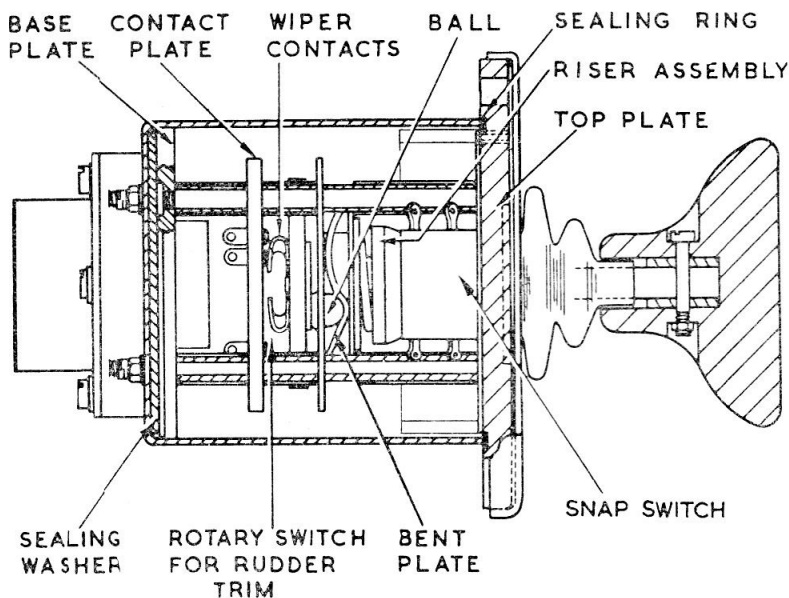

Fig. 2. Sectional view of trim switch
2. The trim switch (fig. 2) consists of a hand control knob fastened to a shaft which has a universal coupling on its end. Movement of the shaft vertically or sideways moves a cruciform gate which operates two pairs of switches, one pair for aileron trimming and the other pair for elevator trimming. A rotary switch consisting of stud contacts